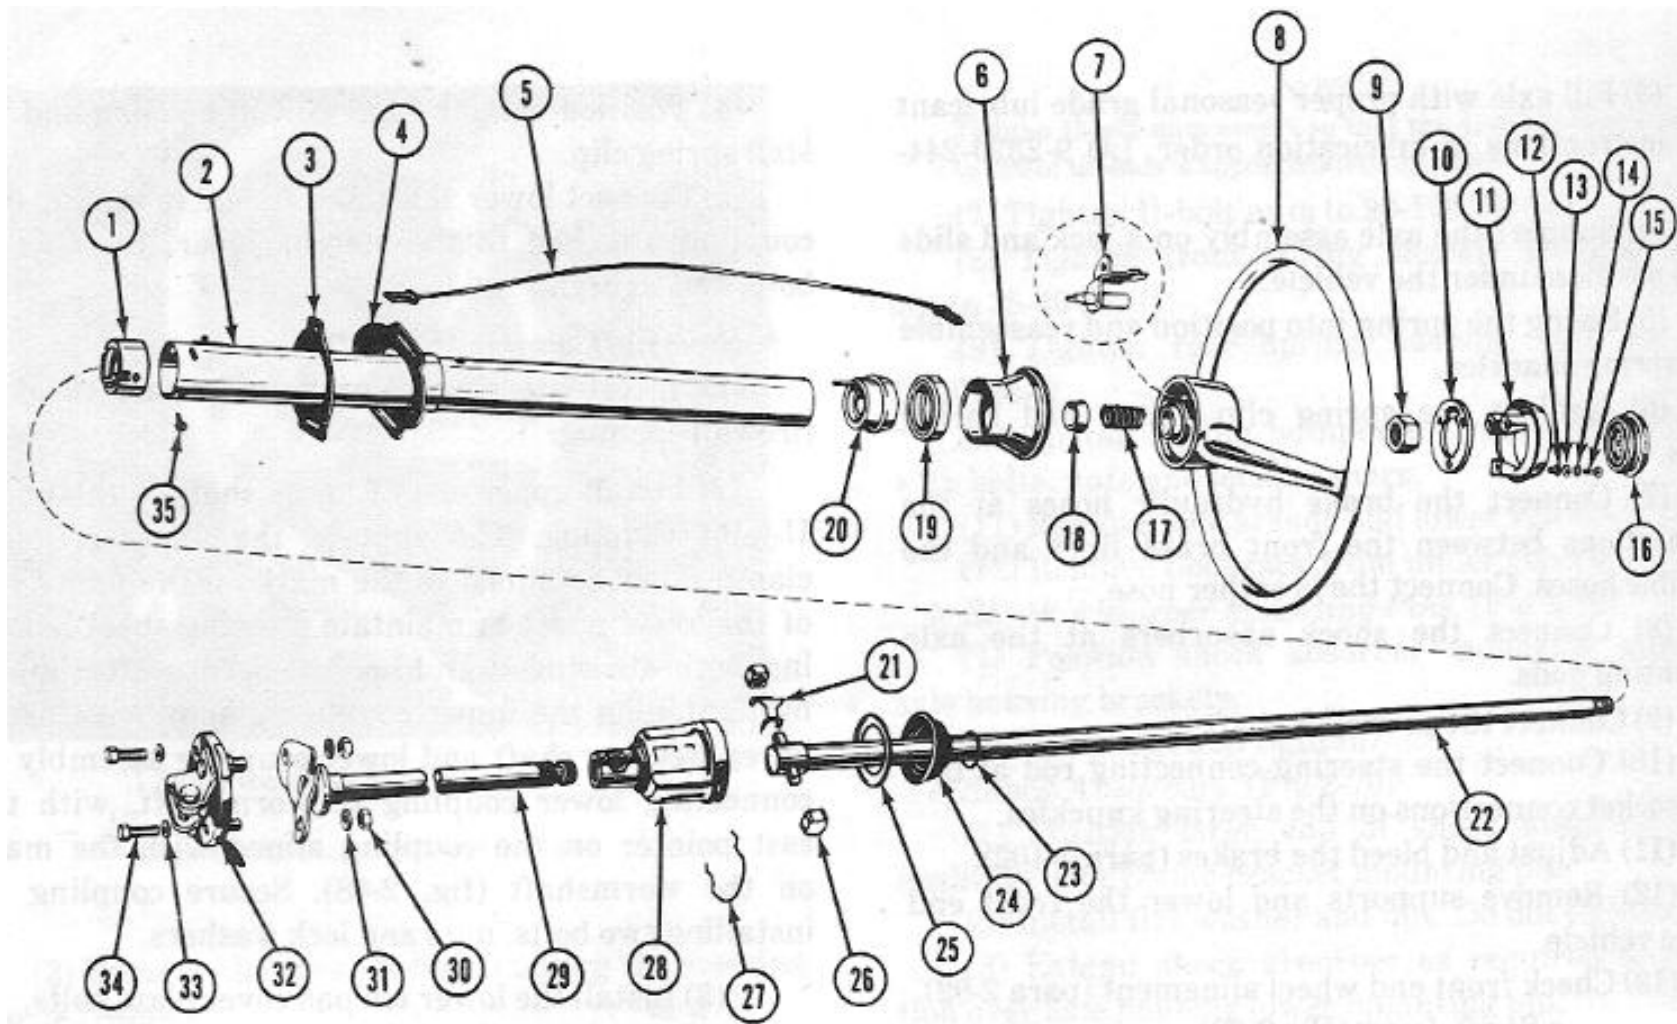

Figure 2-73. Steering column.
- (1) Remove nut, lock washer and bolt which secure steering shaft U-joint coupling (28) to lower steering shaft (29). Spread clamp and pry universal joint coupling (28) off lower steering shaft and flange (29).
- (2) Disconnect horn wire (5) from wiring harness connector.
- (3) Remove two bolts and lock washers which secure steering column clamp to instrument panel upper bracket. Remove directional signal control unit from steering column.
- (4) Remove two bolts and lock washers which secure lower steering column clamp to firewall toe panel.
- (5) Remove outer steering column (2) from upper steering shaft (22).
- (6) Disconnect lower steering shaft (29) and flexible coupling (32) from steering gear and pull through firewall opening.
i. Steering Shaft Joint. The U-joint coupling (28 fig 2-73) has a single spring which is placed between two bearing blocks, tending to spread them apart and automatically take up the wear. When servicing the U-joint coupling, the following procedure should be followed:
- (1) Disconnect the lower steering shaft coupling at the steering gear by removing the two nuts, bolts and lock washers.
- (2) Loosen clamp holding U-joint coupling cover to lower shaft and remove U-joint coupling cover.
- (3) Remove spring clip from cover and carefully remove cover from steering shaft. Use caution to avoid loss of small parts inside cover.
- (1) Install coupling over on lower shaft, alining slot in clamp with mark on shaft. Install clamp bolt and tighten,
- (2) With steering shaft installed, place bearing blocks with wave washers in place over each end of pivot pin after first lubricating pin with chassis grease. Place retainer over end of shaft.
- (3) Lubricate inside of housing with chassis grease and carefully position over pivot pin.
- (4) Position retainer and bolt in housing and install spring clip.
- (5) Connect lower shaft and flange to the flexible coupling attached to the steering gear. Install two bolts and tighten.
h. Steering Column. (Fig 2-73)
- (1) Insert steering column and shaft through firewall opening.